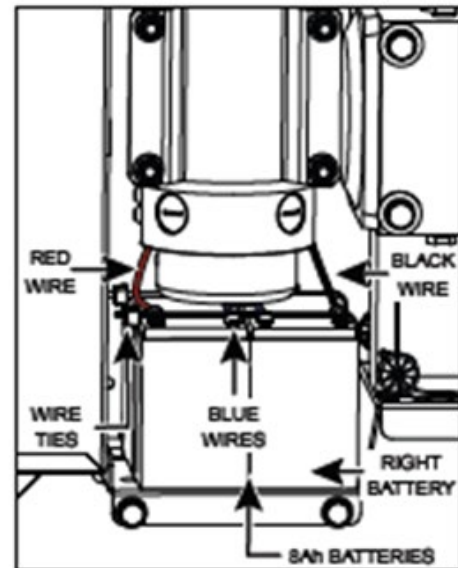

Figure 52. New DC Battery Replacement
4. **As you slide the battery onto the tray, connect the black wire to the black terminal on the right battery. See “Figure 52. New DC Battery Replacement” on page 177.**